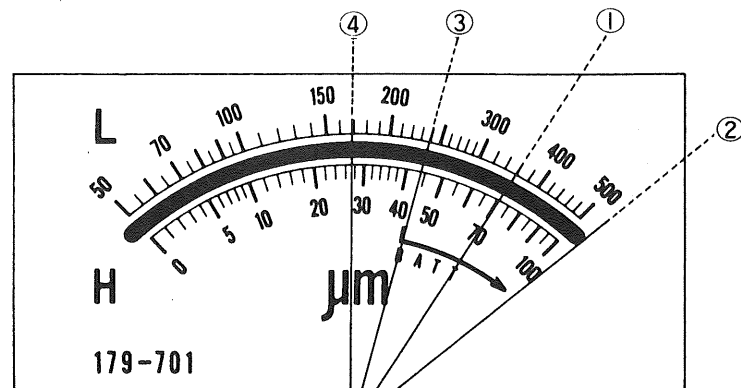

Fig. 6
The needle pointer which narrowly reaches the lower limit of the "BATT" zone as shown by ③ in Fig. 6, is likely to get out of the normal operating zone in the course of measurements. Such battery should, therefore, be checked frequently during operation, and replaced if the pointer stops below the "BATT" zone; otherwise, unstable indication may be caused.